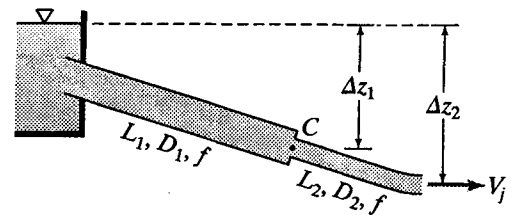

Figure P8.92
- 8.92 A pipeline 900 ft long discharges freely at a point 200 ft lower than the water surface at intake (Fig. P8.92). The pipe intake projects into the reservoir. The first 600 ft is of 10-in-diameter, and the remaining 300 ft is of 6-in diameter. (a) Find the rate of discharge, assuming $f = 0.06$. If the junction point C of the two sizes of pipe is 150 ft below the intake water surface level, find the pressure head (b) just upstream of C and (c) just downstream of C . Assume a sudden contraction at C .